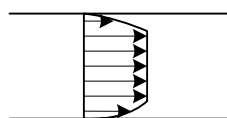

Figure 2-3.2: Plug flow of a Binghamian fluid.
- b) Plug flow will occur at any laminar flow since shear stress is low in the middle of the pipe. The Bingham model predicts an $YP = 9.1 \text{ Pa}$. This is a theoretical value, but given time at steady-state laminar flow, gel strength will develop, in fact approaching the level of the YP . Shear stresses below this level will lead to gel (flocculation) as shown in Figure 2-3.2